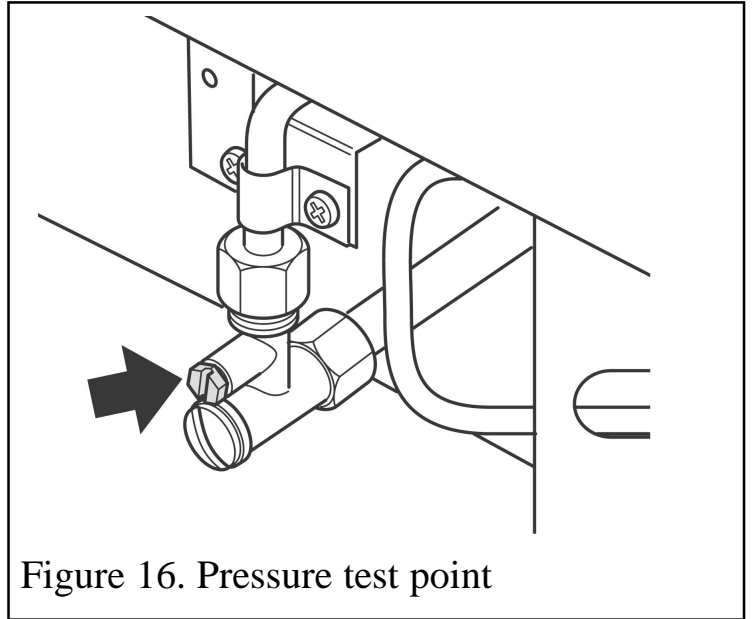

Figure 16. Pressure test point
1. Check the inlet pressure by fitting a pressure gauge at the test point. The test point is on the inlet 'T' connector (See figure 16). Check the pressure with the appliance alight and set at maximum output.